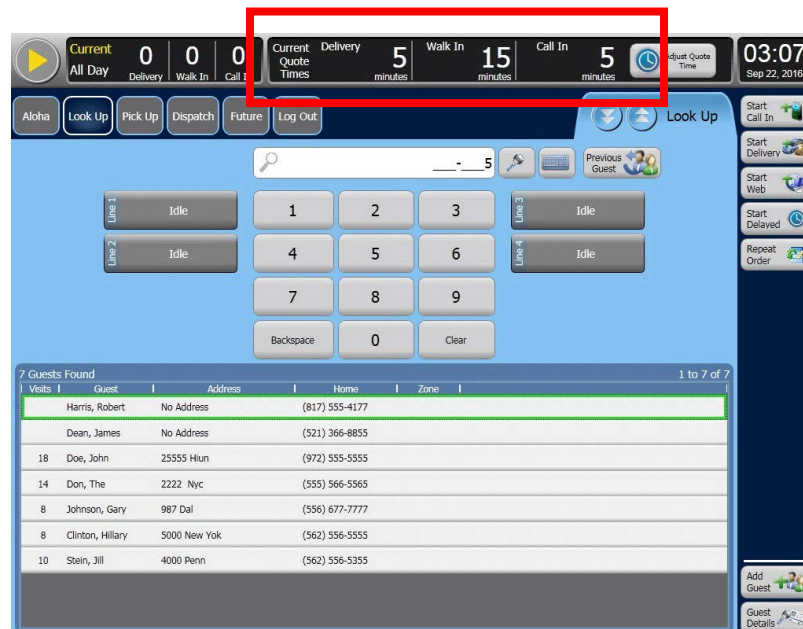

Figure 8 Aloha Takeout FOH Screen
1. From the Front-of-House (FOH) ATO screen (Figure 8), touch **Adjust Quote Time**.